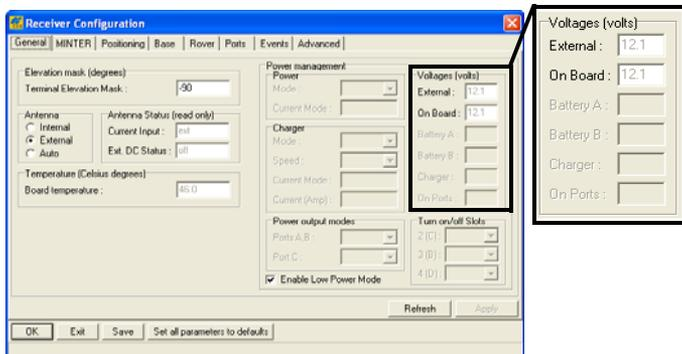

Figure 2-12. View Voltages Information
3. View the **Voltages** information (Figure 2-12).